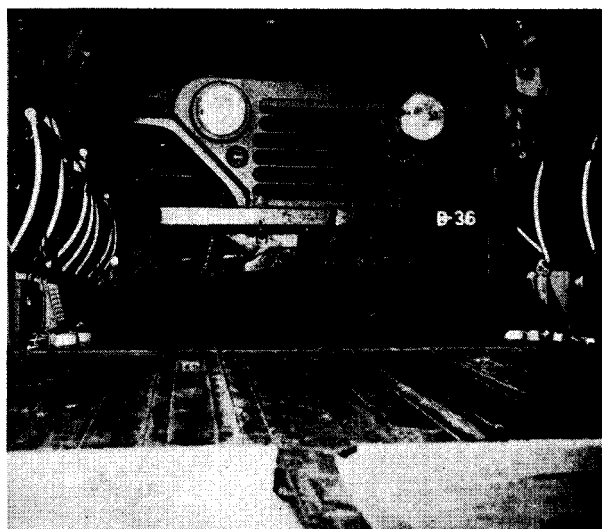

Figure 1. M151 1/4-ton truck positioned and tied down. (Tiedowns have not yet been affixed to front lifting shackles.) View looking forward in helicopter.
- (3) Attach small clevis assembly to each axle hub of M151 1/4-ton trucks.
- (4) Position guides in helicopter and at left front of truck to observe clearances and to signal drivers as necessary.
- (5) Back first truck into helicopter to tie-down position; place transmission in gear and set brakes.
- (6) Back truck with trailer into helicopter to tiedown position and keep coupled; place transmission in gear and set brakes on truck and trailer.
- (7) Tie down vehicles in accordance with figures 1, 2, 3 and the tiedown data table. Twenty CGU-1/B tiedown devices are required.